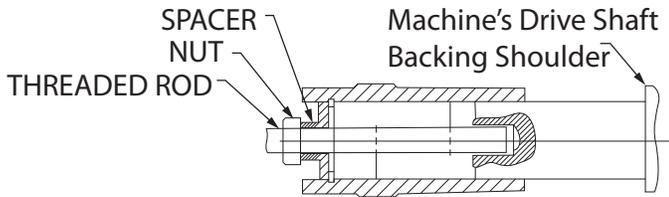
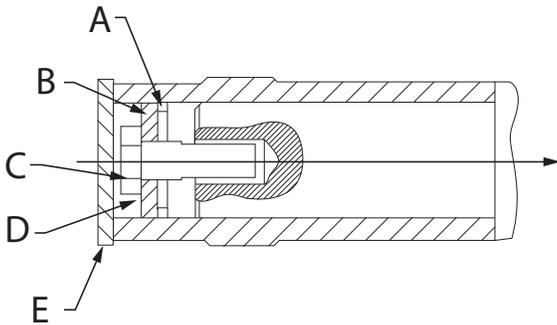

Figure 6 - Threaded Rod and Nut Assembly
Figure 7 - Finished Assembly
All shaft mounted gearboxes are furnished with A) Retaining Ring B) Keep plate C) Retaining Bolt D) Spring Washer E) Dust Cap and Anti-Seize as shown in the finished assembly, Figure 7. Apply the anti-seize onto the customer shaft before installing reducer onto the shaft. The gearbox is pulled onto the shaft by means of a threaded rod and nut assembly as shown in Figure 6 below. The threaded rod and spacer are not supplied. The threaded rod (M) is specified in Table 5 or 6. After the gearbox has been pulled completely onto the machine shaft firmly against the machine shaft's backing shoulder, it must be locked in place with the retaining bolt tightened to the tightening torque shown in Table 4.